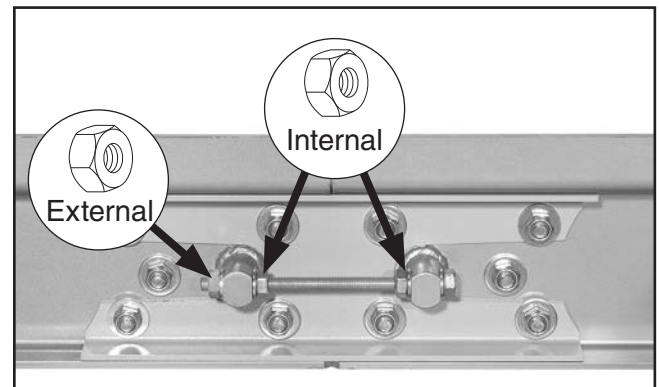

Figure 15. Track section securing hex bolt.
- Tighten external M10-1.5 hex nut to pull track sections together (see **Figure 15**).
- Tighten (2) internal M10-1.5 hex nuts to secure hex bolt (see **Figure 15**).